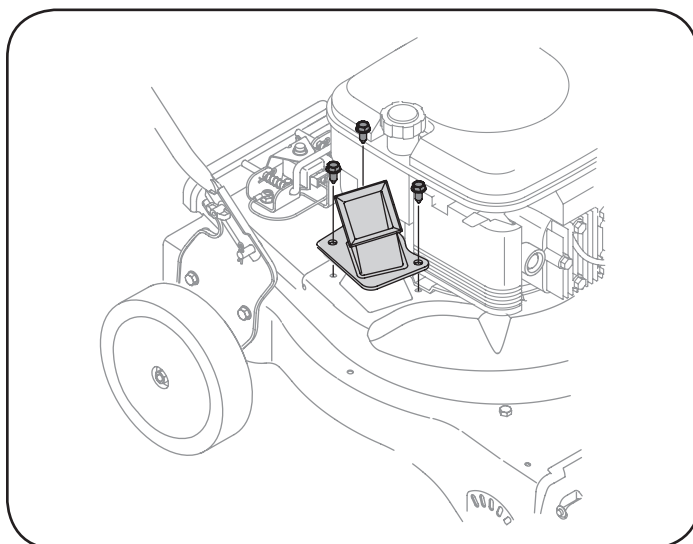

Figure 22
3. Remove the three hex cap screws holding the chipper chute to the upper housing. See Figure 22.